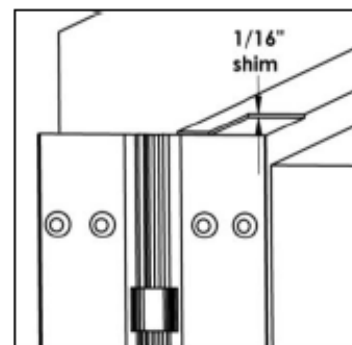

Fig. 1
1. With the hinge open, place the hinge frame leaf against the frame rabbet making certain that the alignment rib is flush against the frame face along its entire length. Position the top of the hinge $1/16"$ ($1/8"$ maximum) below the header. **Note: A $1/16"$ shim is recommended due to initial settling of the bearings.** (See Fig. 1)